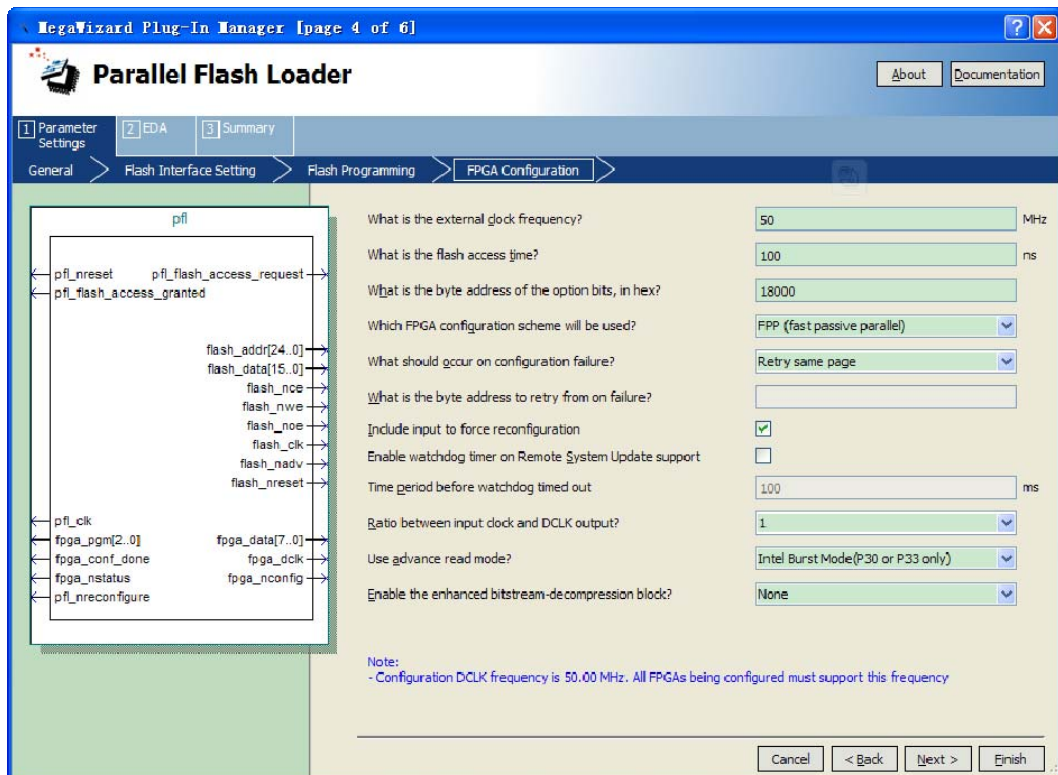

Figure 3-12 Setting the PFL Megafunction Parameters(Step 4)
9. Click Next. **FPGA Configuration** page appears and specify value as shown in Figure 3-12.